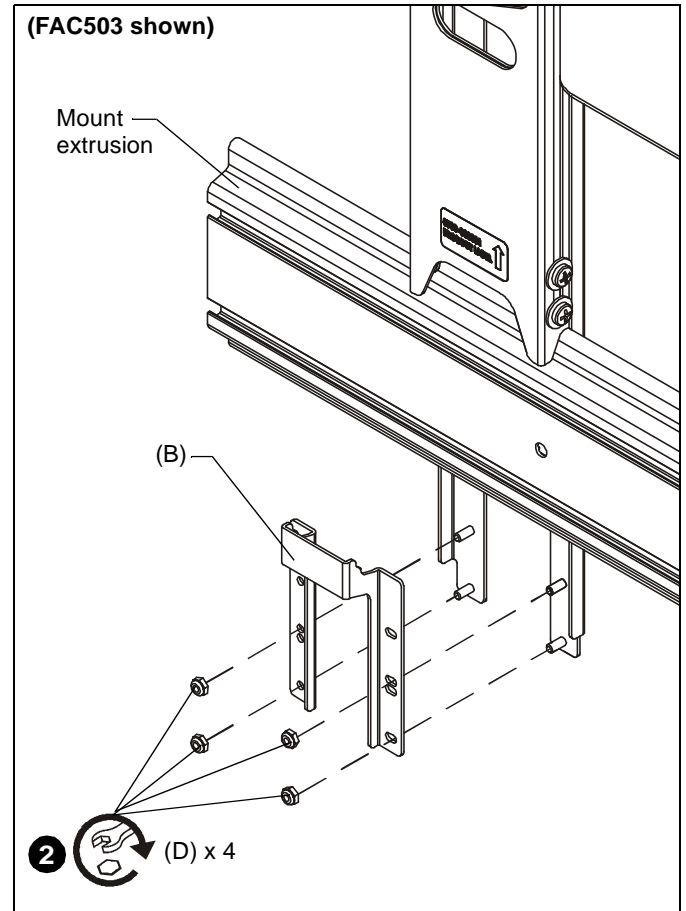

Figure 3
2. Attach retaining bracket (B) to upright, pressing retaining bracket against mount extrusion and tightening, using four 10-24 lock nuts (D). (See Figure 3)